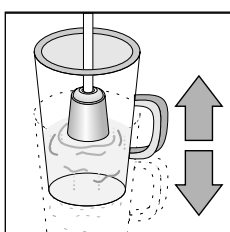

fig. 14
- 3 Move the jug up and down under the steam nozzle as in fig. 14 (this will give maximum froth).